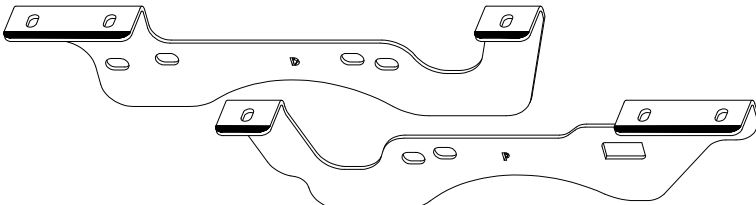

Figure A2
- **Frame Brackets:** Apply tape to the outside edge of each flange as shown in Figure A2.